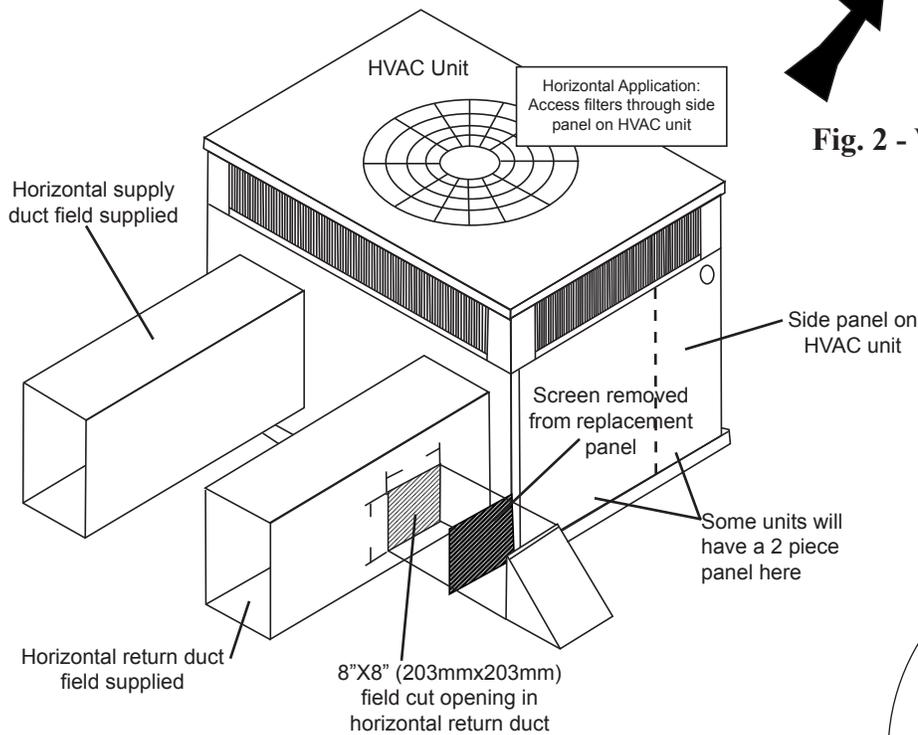

Fig. 3 - Hood Installation - Horizontal Application
1. Install field provided return air duct over the horizontal return opening per HVAC unit instructions. See Fig. 3.
2. Cut 8" x 8" (203mm x 203mm) square opening side of horizontal duct. See Fig. 3.